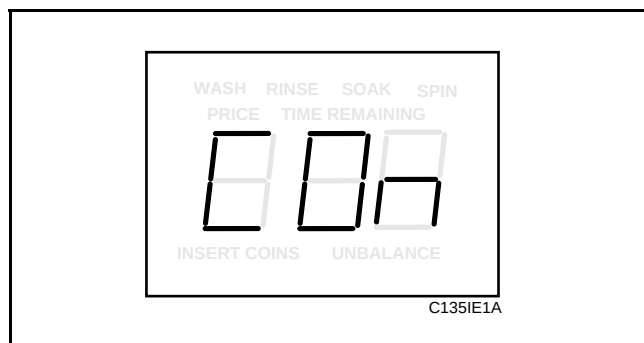

Figure 101
3. Press the DELICATES (+) pad or the COLD (–) pad to scroll through the programmable options until “COn” appears in the VFD. See **Figure 101**.